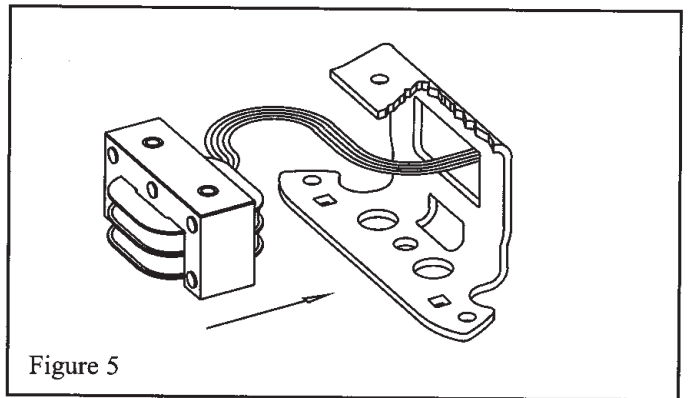

Figure 5
4. Replace shock mount and magnet, feeding coil wires through hole in back of bracket (25B) as shown in Fig. 5. Use Loctite on screws (25D). Tighten mounting screws with 55 to 60 lb. in. torque.